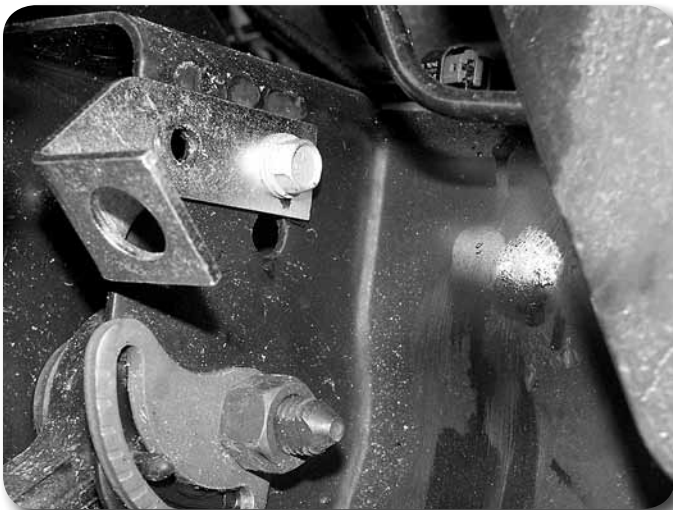

Figure 30
60. Attach the provided brake line bracket to the upper control arm mount using the original mounting hole/hardware and the newly drilled hole with the provided 5/16" x 3/4" bolt, nut, and washers. **Figure 30** Leave hardware loose.